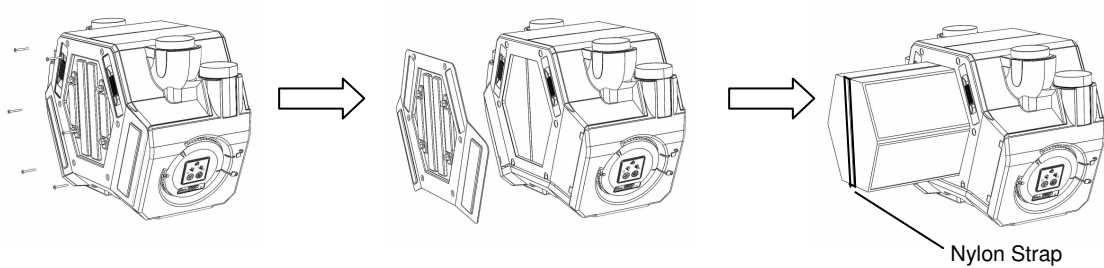

Figure 9
- 2) Unscrew the six front panel fixing screws and remove the panel (*See Figure 9*).